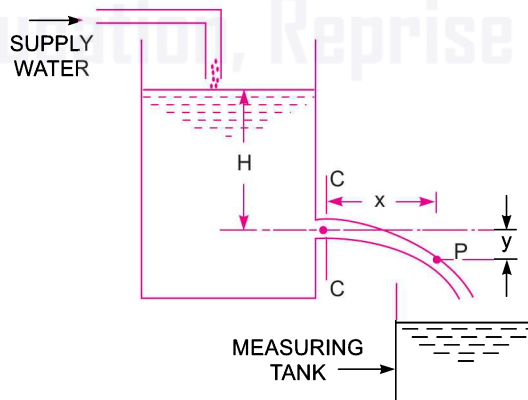

Fig. 7.2 Value of  $C_d$
**7.5.1 Determination of Co-efficient of Discharge ( $C_d$ ).** The water is allowed to flow through an orifice fitted to a tank under a constant head,  $H$  as shown in Fig. 7.2. The water is collected in a measuring tank for a known time,  $t$ . The height of water in the measuring tank is noted down. Then actual discharge through orifice,
**7.5.2 Determination of Co-efficient of Velocity ( $C_v$ ).** Let C-C represents the vena-contracta of a jet of water coming out from an orifice under constant head  $H$  as shown in Fig. 7.2. Consider a liquid particle which is at vena-contracta at any time and takes the position at  $P$  along the jet in time ' $t$ '.